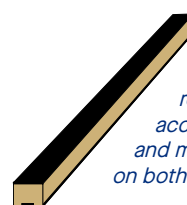

Fig.2: Dunnage must be rebated on the underside to accommodate steel strapping and must be covered with rubber on both sides.
- Only rubber covered timber dunnage is to be used, including base dunnage. Rubber must be attached to the timber & covering at least 90% of two opposing faces. (Fig. 2)